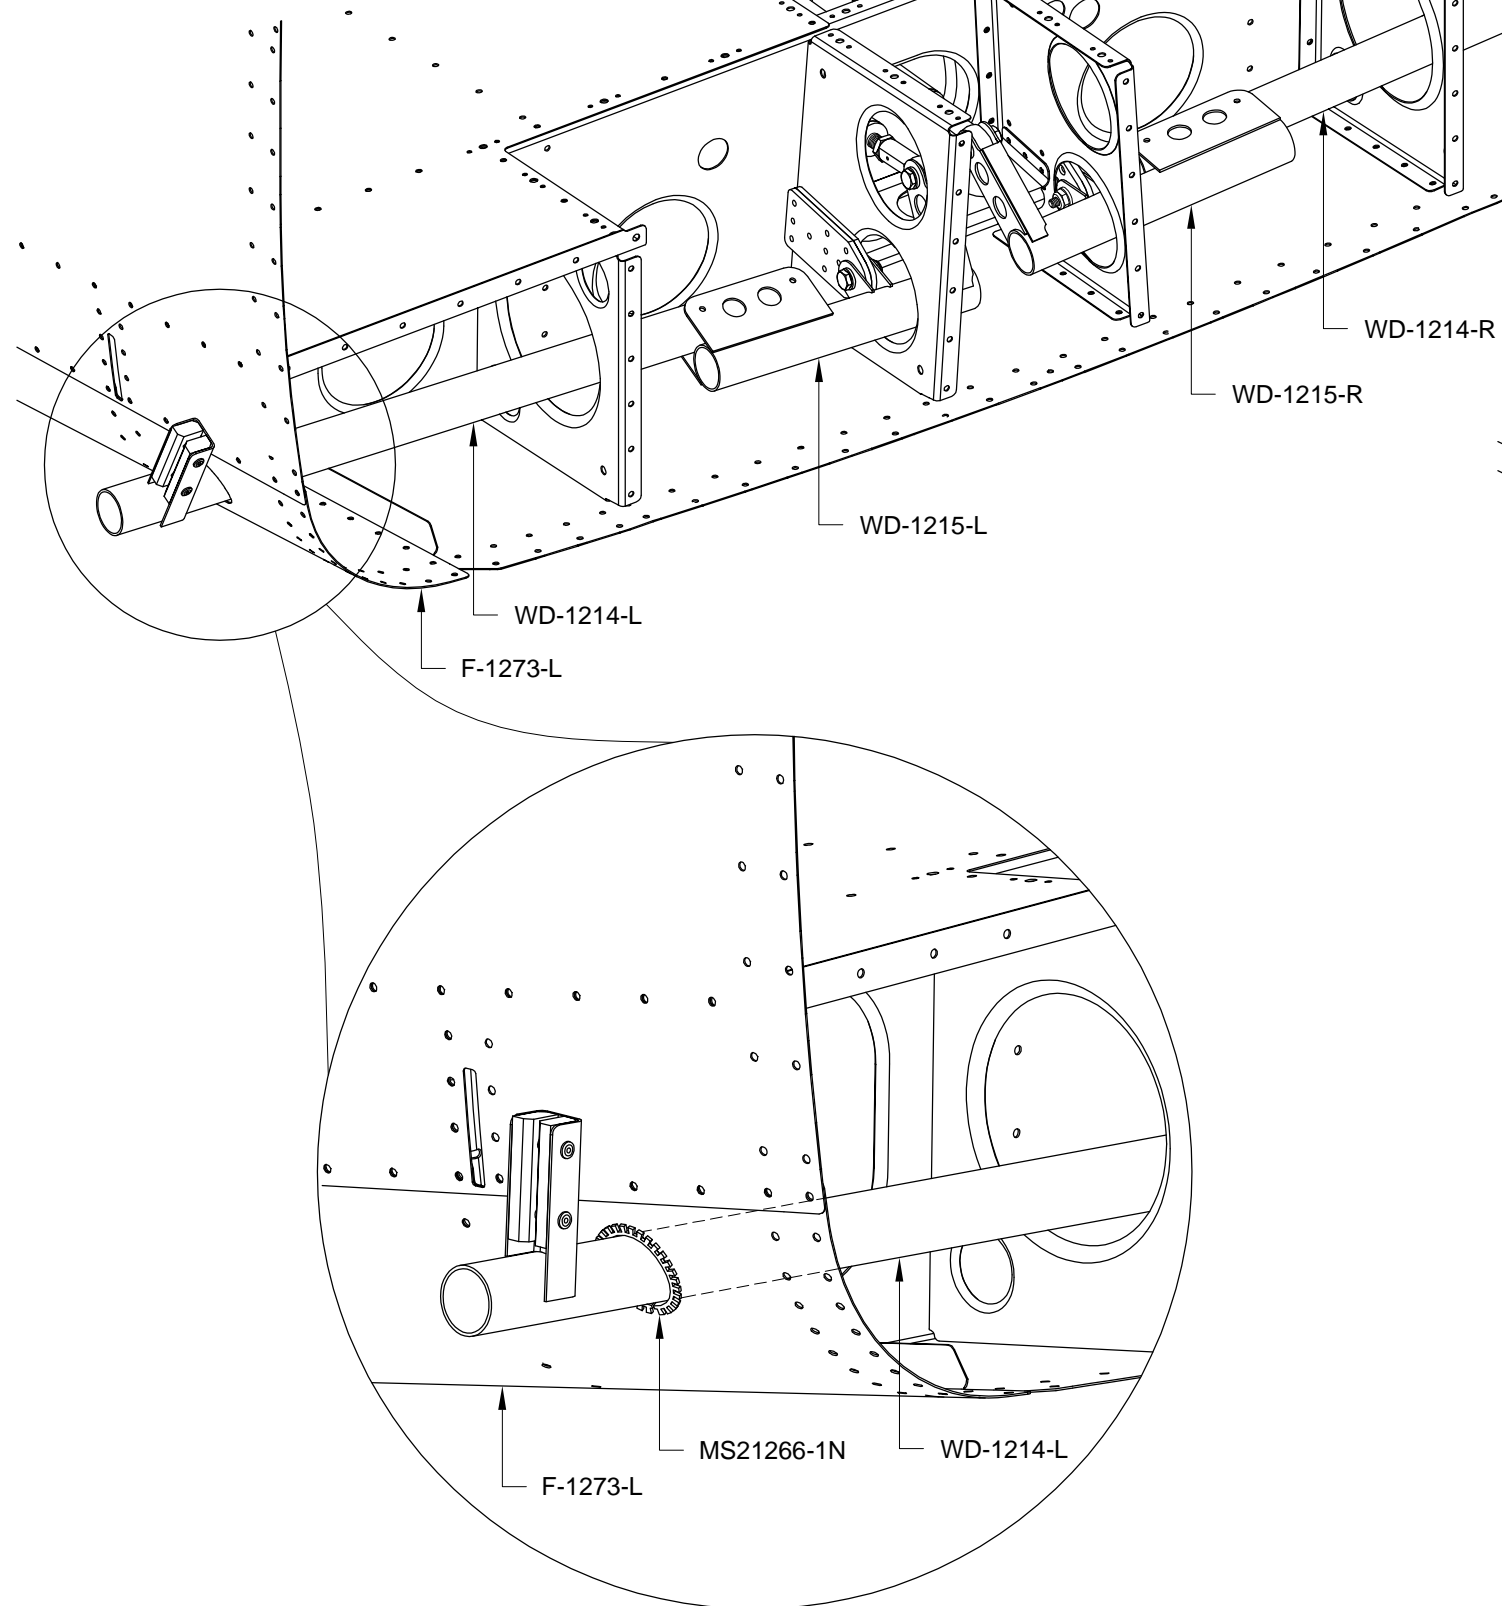

FIGURE 1: INSTALLING THE FLAPERON TORQUE TUBE
Step 1: From the 12 inch length of MS21266-1N Nylon Grommet supplied, cut two 3-11/16 lengths and install them around the edges of the holes in the F-1273-L & -R Baggage Corner Skins as shown in Figure 1.
Step 2: Slide the WD-1214-L & -R Flaperon Torque Tubes through the holes in the F-1273-L & -R Baggage Corner Skins and between the brackets of the WD-1215L & -R Flaperon Torque Arms as shown in Figure 1.